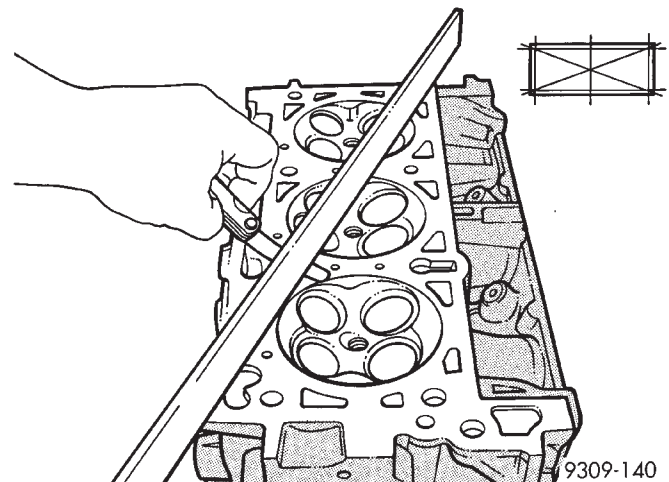

Fig. 17 Checking Cylinder Head Flatness
- (1) Before cleaning, check for leaks, damage and cracks.
- (2) Clean cylinder head and oil passages.
- (3) Check cylinder head for flatness (Fig. 17).